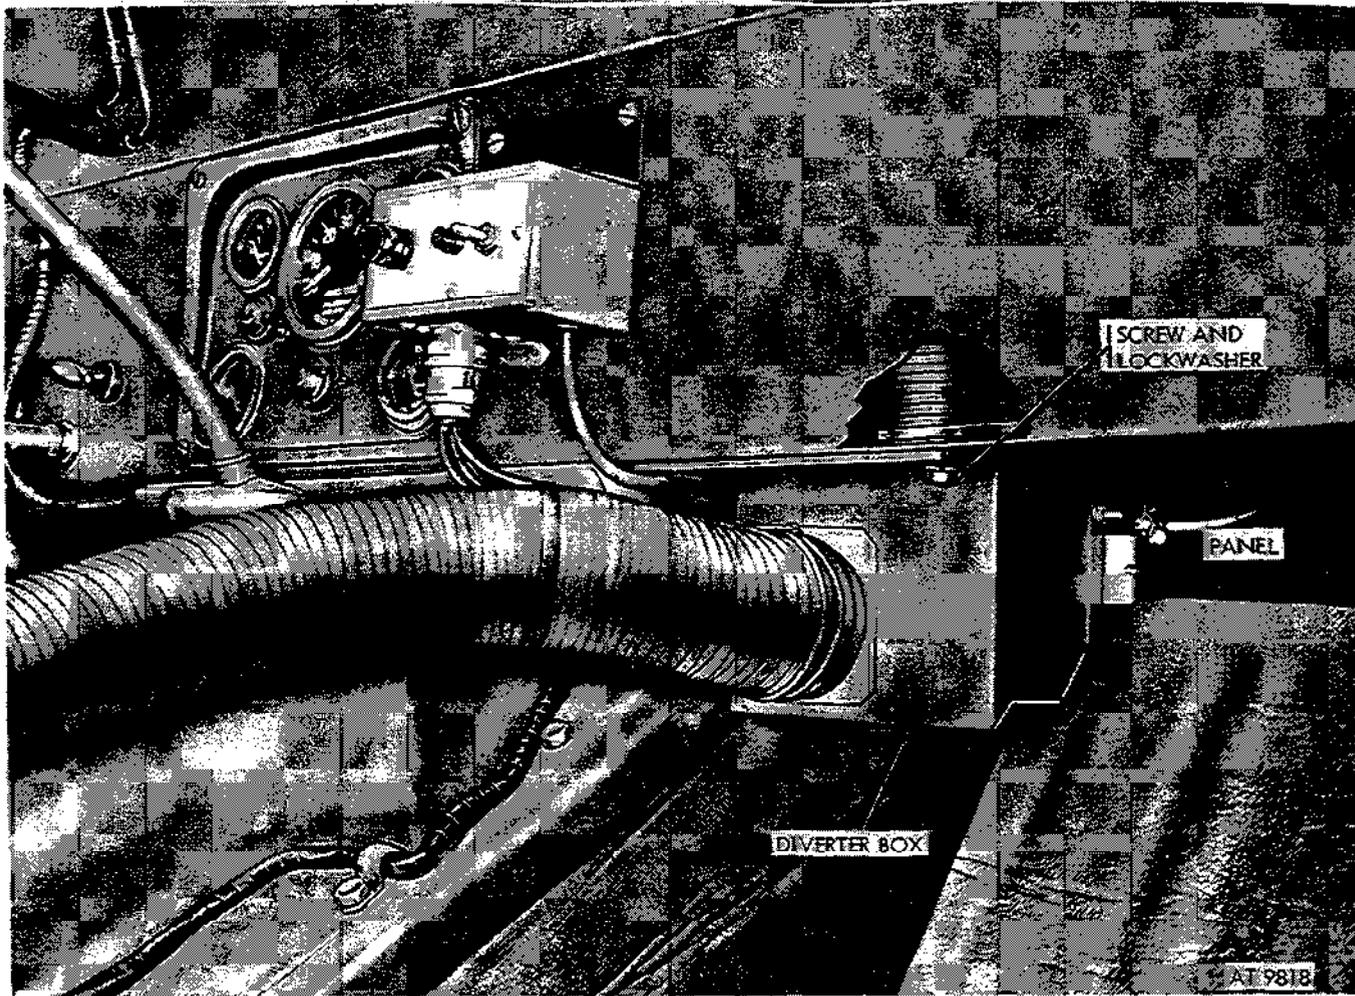

Figure 3-11. Defroster diverter installed.
a. *Removal.* Refer to figure 3-11.
(1) Loosen three clamps retaining hoses to diverter assembly and remove hoses.
(2) Remove two mounting screws, washers, and nuts.
b. *Installation.* Refer to figure 3-11.
(1) Attach diverter assembly to lower lip of dash panel with two screws, washers, and nuts.
(2) Position clamp and connect hose from heater to inlet at bottom of diverter. Tighten clamp screws.
(3) Connect Hose from left defroster nozzle to left top of diverter. Tighten clamp screw. Connect hose from right defroster nozzle to right top outlet of diverter. Tighten clamp screw.